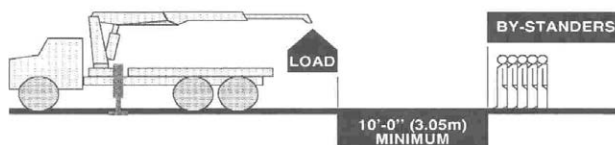
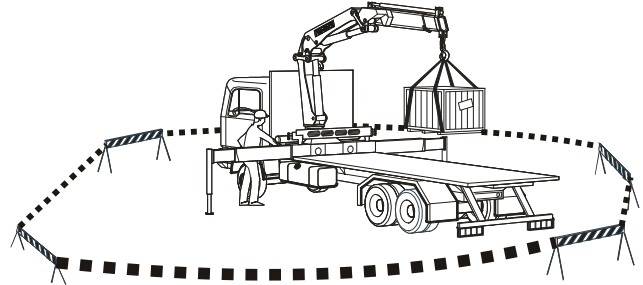

Figure 8.1: Establish a work zone with at least a 10 ft. safety perimeter
Figure 8.2: Establish a well-marked work zone and ensure no unauthorized persons are inside the designated area before operating crane.
- Establish a minimum 10 ft. safe distance around the work zone (Figure 8.1). The work zone should be an area designated by means of recognized safety identifiers (such as cones, tape, or barriers) for the purpose of preventing non-authorized persons from entering (Figure 8.2).